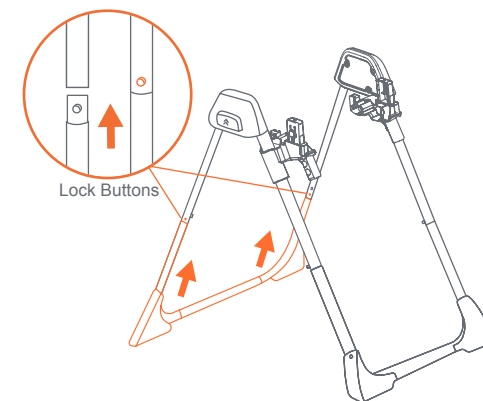

Fig. 4
- 4) • Insert another Leg into the ends of the rear tube of both the right and left Upper Frame Assemblies (Fig. 4).